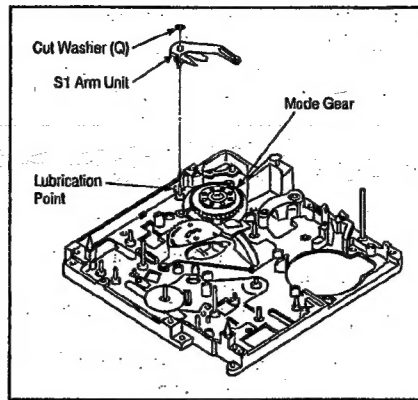

Fig. M24
- Fig. M24 Hold (N) and (O) positions on S1 and T1 Arm units and unlock the locking portions (A) and (B) with tweezers.